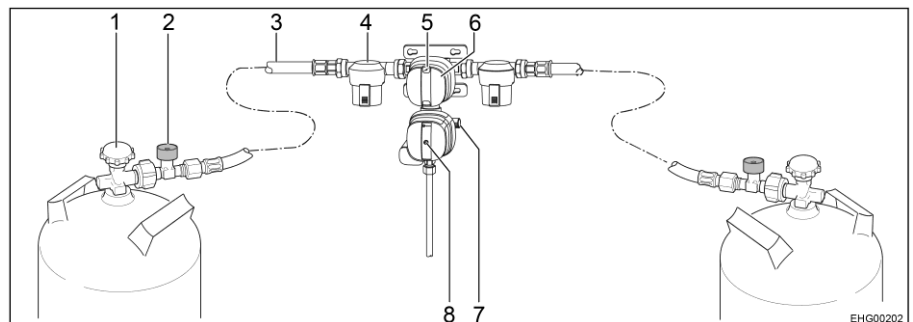
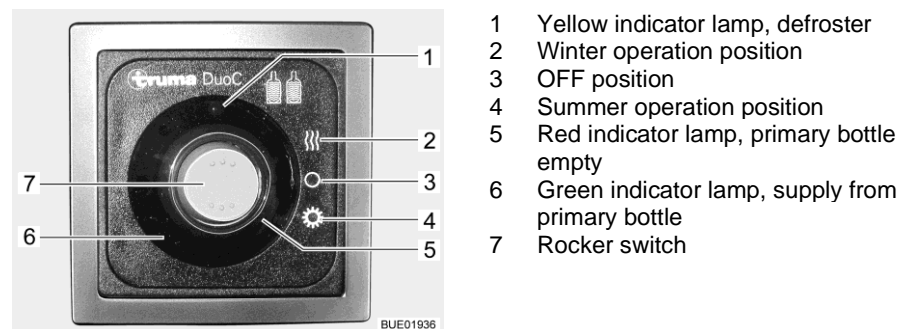

Fig. 92 Safety gas pressure regulating system DuoControl CS
Fig. 93 Operating unit (DuoControl)
The DuoControl regulating system consists of a reversing valve and a crash sensor. The DuoControl regulating system is installed between the high-pressure hoses (Fig. 92,3) with hose break guard (Fig. 92,2). The knob (Fig. 92,6) on the reversing valve is used to select which of the gas bottles is to be used as primary bottle and which is to be used as reserve bottle.
The status of the gas supply is indicated in the inspection window (Fig. 92,5):
Crash sensor The crash sensor blocks the gas supply in the event of a significant impact (e.g. accident). The situation of the yellow reset button (Fig. 92,8) indicates the operating status of the crash sensor:
- If the yellow reset button (Fig. 92,8) is in the pressed-in position, the crash sensor is ready to operate.
- If the yellow reset button (Fig. 92,8) is protruding, the crash sensor is **not** ready to operate. Putting into operation, see below.
Hose break guard The hose break guard (Fig. 92,2) blocks the gas flow if the connected hose breaks. The hose break guard must be activated by pressing the green button.
Operating unit The operating unit shows the status of the primary bottle. When the green indicator lamp (Fig. 93,6) illuminates, the primary bottle is full. When the red indicator lamp (Fig. 93,5) illuminates, the primary bottle is empty. In this case, the reserve bottle is used for the gas supply.
If the heater of the DuoControl regulating system (defroster) is active, the yellow defroster indicator lamp (Fig. 93,1) is lit.
In addition, the operating unit (Fig. 93) is also used to set summer operation or winter operation.
Setting summer operation: ■ Press lower part of the rocker switch (Fig. 93,7) (summer operation position (Fig. 93,4)).
Setting winter operation: ■ Press upper part of the rocker switch (Fig. 93,7) (winter operation position (Fig. 93,2)).
■ Use the knob (Fig. 92,6) on the reversing valve to select the gas bottle which is to be the primary source of gas (primary bottle). Always turn the knob as far as it will go.
- Open regulator taps (Fig. 92,1) on the gas bottles.
- Press and hold the green button of the hose break guard (Fig. 92,2) for about 5 seconds. The green marking is shown in the inspection window (Fig. 92,5).
- If the crash sensor has triggered (the yellow reset button (Fig. 92,8) is protruding):
Press the yellow reset button (Fig. 92,8) in forcefully, turn it slightly in a clockwise direction and hold it for about 5 seconds. Make sure that the reset button remains in the pressed-in position ("ready for operation"). If it is not possible, reset the system as described: Use the Torx insert T20 on the included screwing aid to strengthen the rotary movement.
- Set the rocker switch (Fig. 93,7) to the OFF position (Fig. 93,3). The indicator lamps go out.
- Close regulator taps (Fig. 92,1) on the gas bottles.
If the green indicator lamp (Fig. 93,6) goes out during operation and the red indicator lamp (Fig. 93,5) lights up, the primary bottle is empty and must be changed. The red marking is shown in the inspection window (Fig. 92,5) of the associated gas bottle. The reserve bottle continues supplying the gas appliances with gas.
- Turn the knob (Fig. 92,6) as far as it will go in the direction of the gas bottle currently used. In this way, this gas bottle is the primary bottle now, and the empty gas bottle becomes the reserve bottle. The marking in the inspection window (Fig. 92,5) changes from red to green.
- Close regulator tap (Fig. 92,1) on the empty gas bottle. Pay attention to the direction of the arrow.
- Press the green button of the hose break guard (Fig. 92,2).